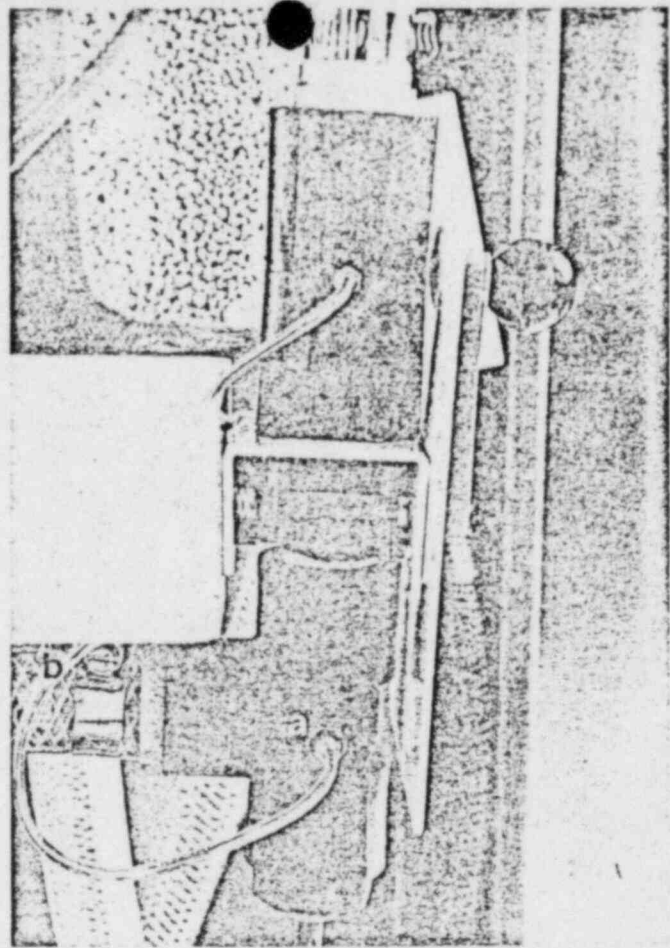

Figure 8. Side view of operate/evacuate valve showing
NOTE: CARE MUST BE EXERCISED TO INSURE THAT THE OXYGEN REPLENISHMENT SWITCH IS NOT ALLOWED TO REMAIN IN THE MANUAL POSITION AFTER THE SPIROMETER HAS BEEN FILLED TO CAPACITY (10 LITERS). SINCE PRESSURIZATION OF THE SPIROMETER TO NORMAL REGULATOR/FLOW-METER PRESSURE ( 3 PSI) COULD INDUCE LEAKS, A PRESSURE RELEASE VALVE HAS BEEN INSTALLED IN THE AIRWAYS. (SEE FIGURE 8.) THIS VALVE WILL OPEN IF THE AIRWAYS PRESSURE REACHES TWO (2) INCHES OF WATER (0.5 PSI) AND RELEASE THE CONTENTS OF THE AIRWAYS INTO THE EXHAUST TUBE UNTIL THE PRESSURE DROPS BELOW TWO (2) INCHES OF WATER. THE SYSTEM WILL NOT BEGIN TO PRESSURIZE UNTIL THE SPIROMETER HAS BEEN EXPANDED TO CAPACITY.